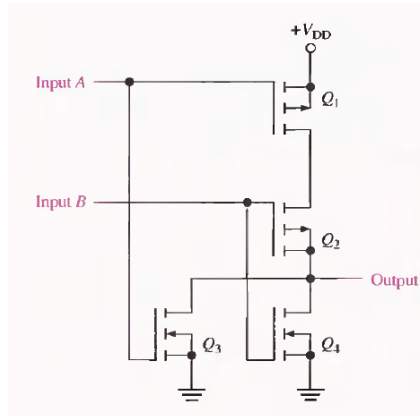

Figure 1-6
6) What type of logic circuit is shown in Fig.1.6, and what logic function is being performed?_____